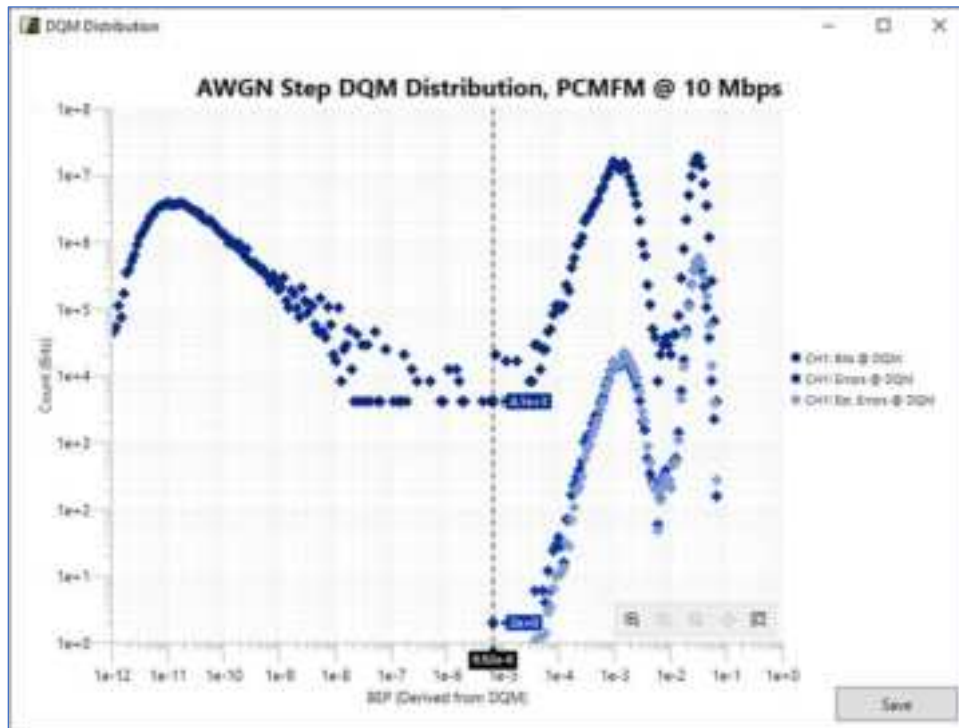
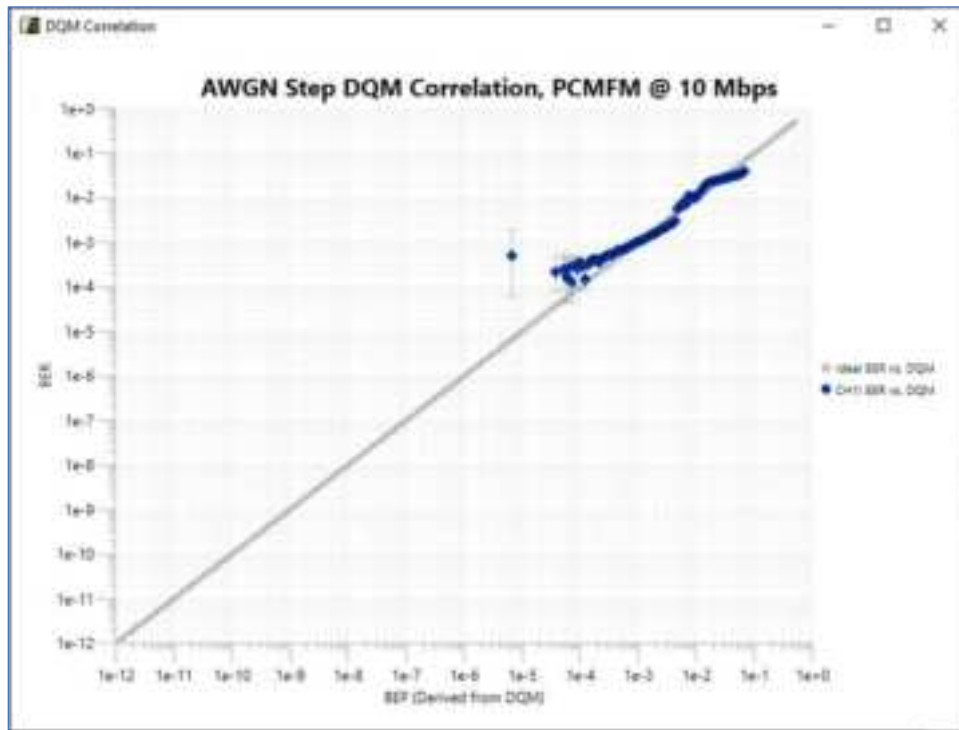

Figure 296: Count of Bits and Bit Errors in Each Bin
Figure 297: Calculated BER in Each Bin (Bits/Errors)
- The count of bits and bit errors for each bin, as shown in Figure 296
- The calculated BER for each bin, as shown in Figure 297
In Figure 296, the dark blue dots show the total count of bits in each bin, generally ranging between 4,000 and 20,000,000 in this example. The three peaks correspond to three AWGN step levels.
The light blue dots show the total count of bit errors in each bin, ranging from 2 to 600,000, in this example (Figure 296).
In Figure 297, the blue dots show the calculated bit error rate (BER) in each bin, ranging from 7×10^{-6} to 6×10^{-2} (dividing error count by the total count from Figure 296).